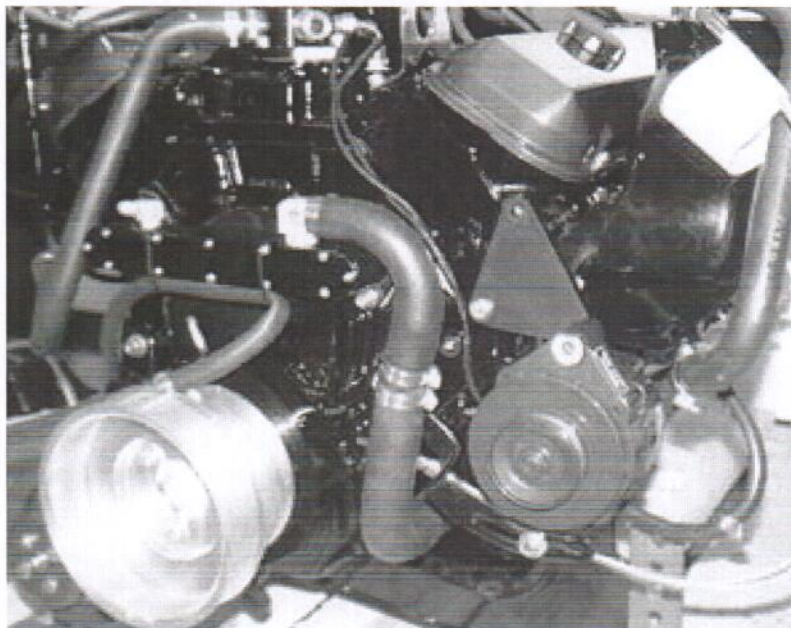

FIGURE E4
2. On the port side, bolt the supplied triangular shaped alternator bracket to the head using the lowermost head bolt hole and hole D2 (from figure E1) with the 7/16 x 1" bolt. The bracket should be oriented so that hole D1 matches up with the upper head bolt hole and the 3/8" hole (D3) sits in the lower of the two positions as shown in figure E4.